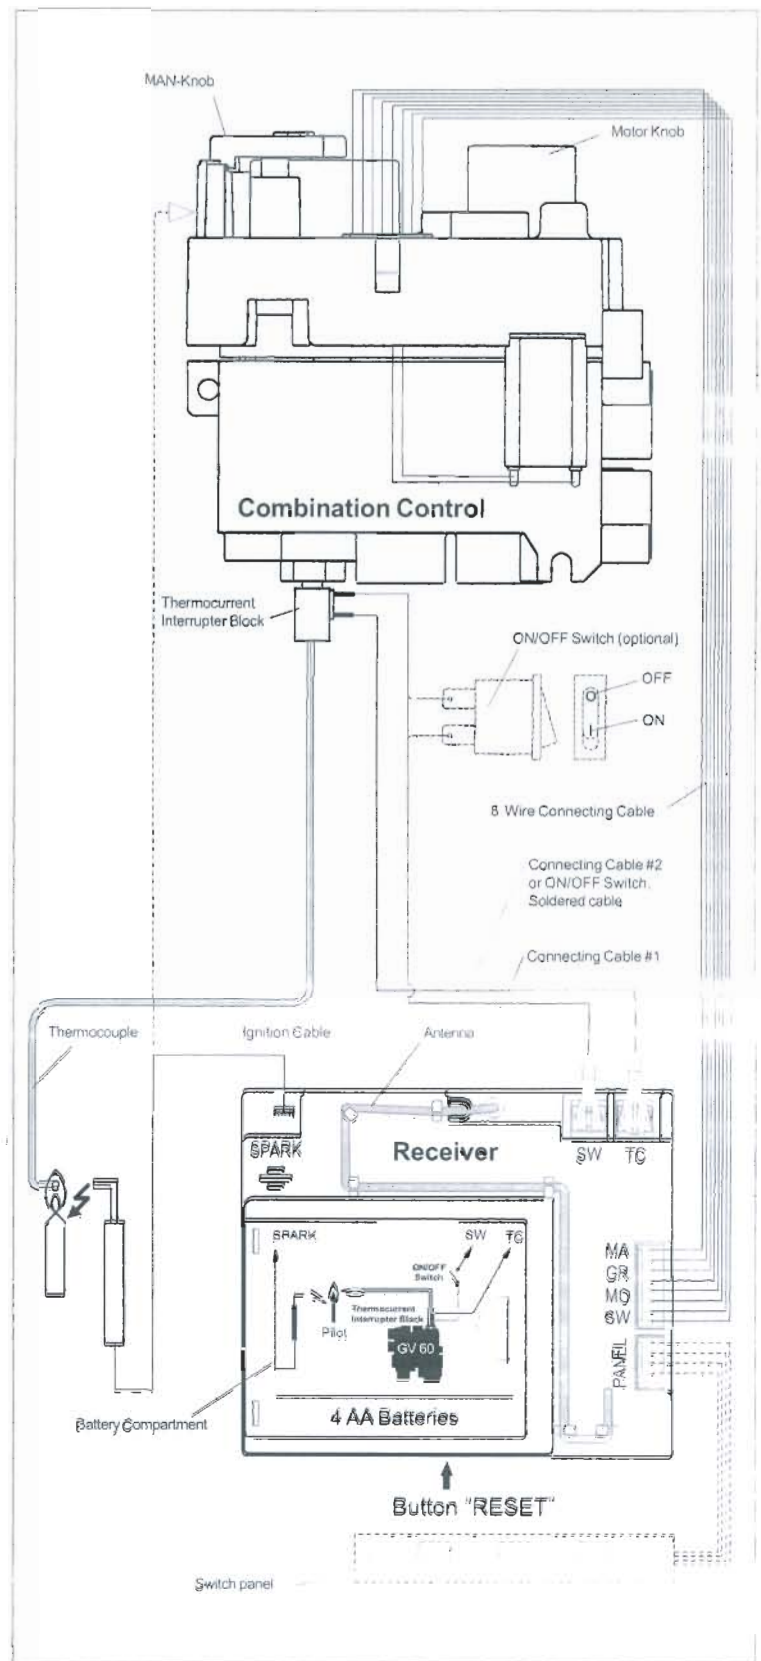

Figure 9: Wiring Diagram
Connection - Thermo Circuit (Figure 9)
Connection - Ignition cable (Figure 9)
- If used, connect 5 wire switch panel cable to receiver (Figure 9).